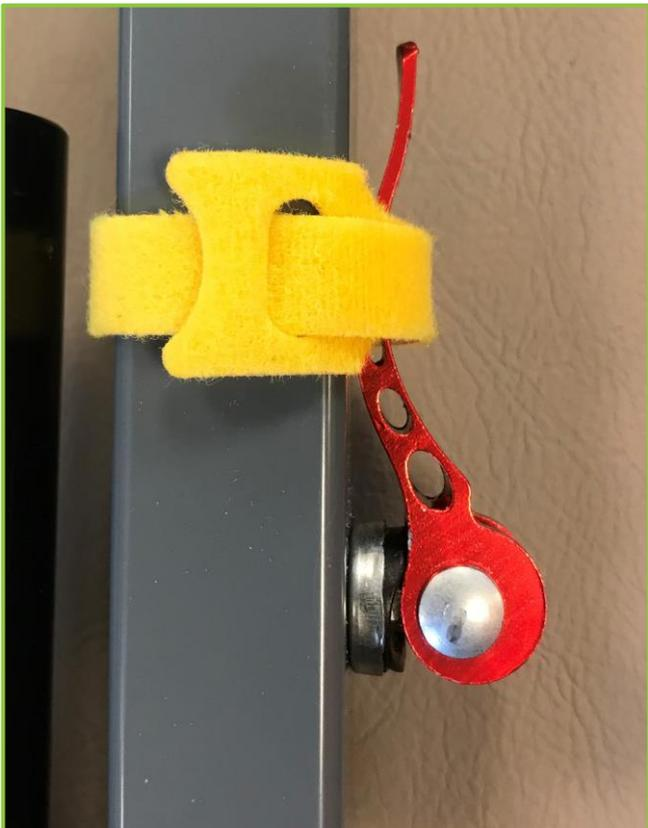

Figure 30
7. If locking out the backrest is not required, there is a Velcro strap that can be used to hold the lever in the unlocked position – see Figure 30.